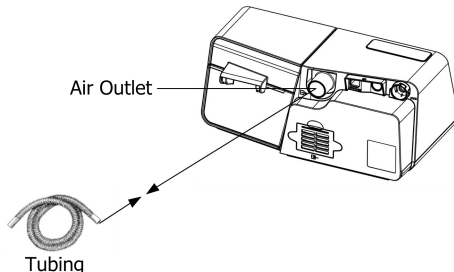

Fig. 12-8
(1) Connect one end of the tubing to the air outlet of the device, as shown in Fig. 12-8.